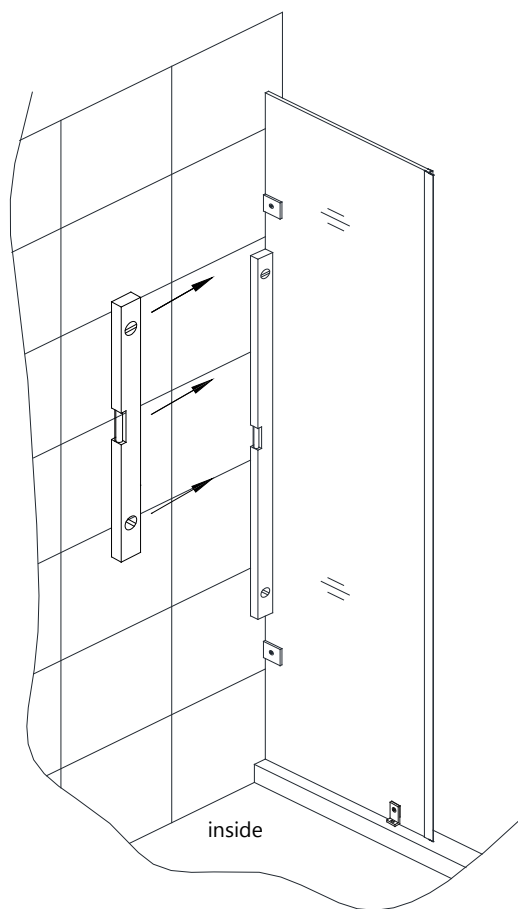

Fig 3
3. Carefully butt the **Stationary Glass (#11)** up against the wall vertically. **(Fig 3)**